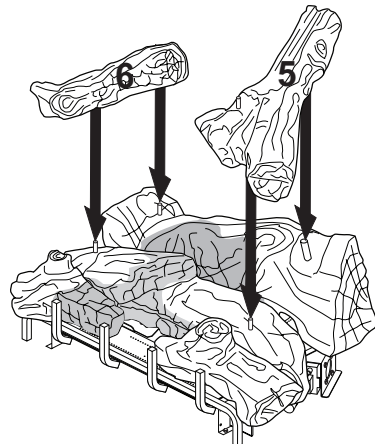

Figure 26 - Installing Logs #5 and #6
4. Place log #5 as shown in Figure 26. Top will fit onto right pin on back log (#1). Front of log will fit onto right pin on log #2.
5. Place left crossover log (#6) over left pins on logs #1 and #2 as shown in Figure 26.